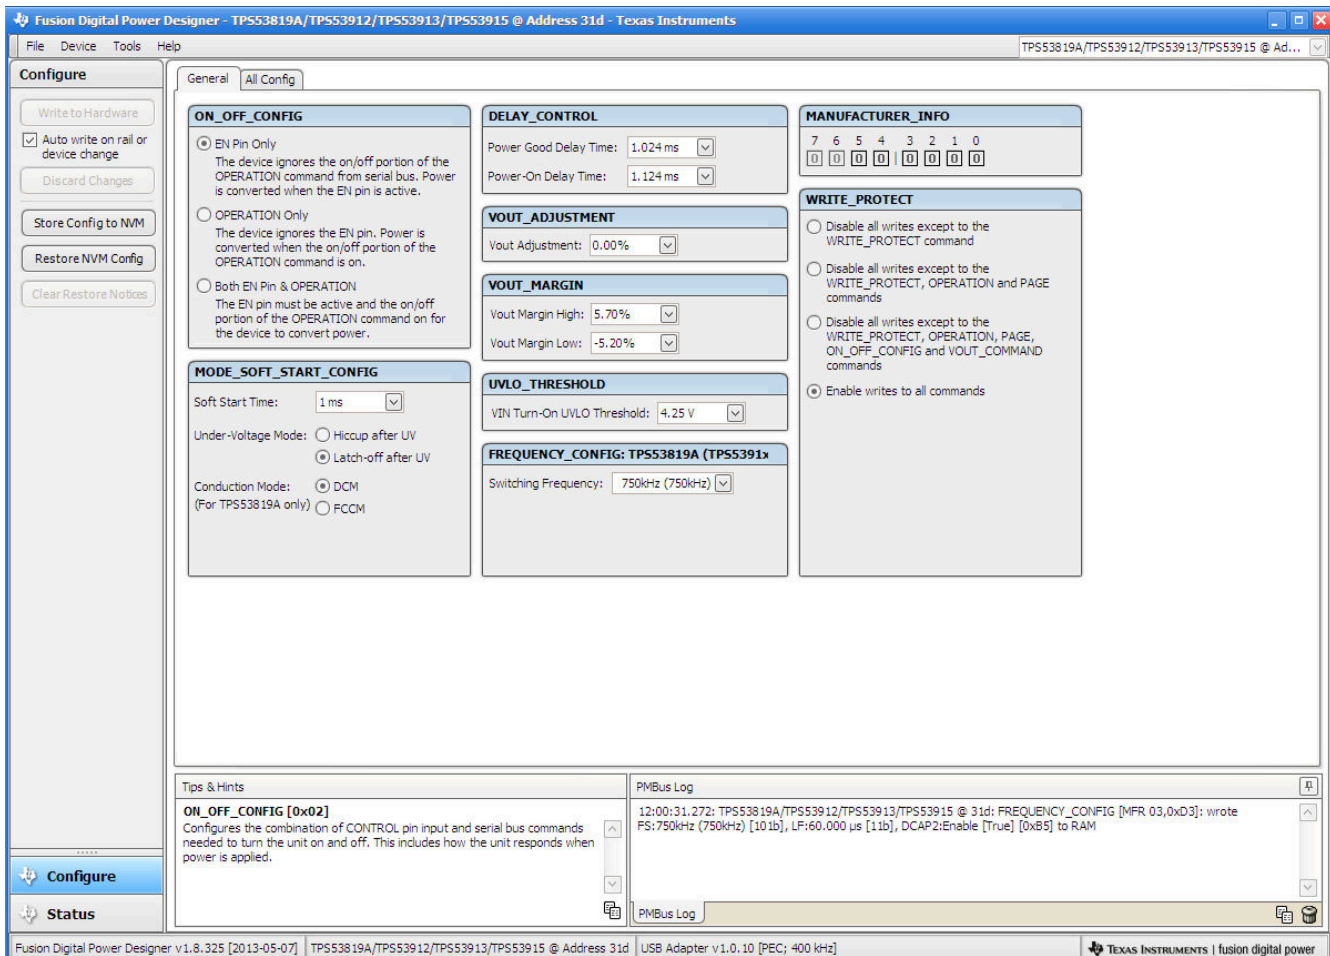

Figure 7-2. GUI for the Fusion Digital Power Designer
10. When the GUI is loaded (see Figure 7-2), verify communication between the GUI and the EVM by changing the frequency of the EVM.